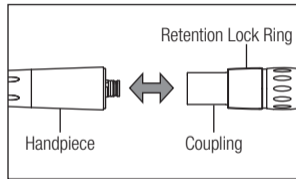

Fig. 2
- 1) Insert the handpiece into the Coupling.(Fig. 2)
Pull back the Retention Lock Ring and remove the handpiece from the Coupling.(Fig. 2)